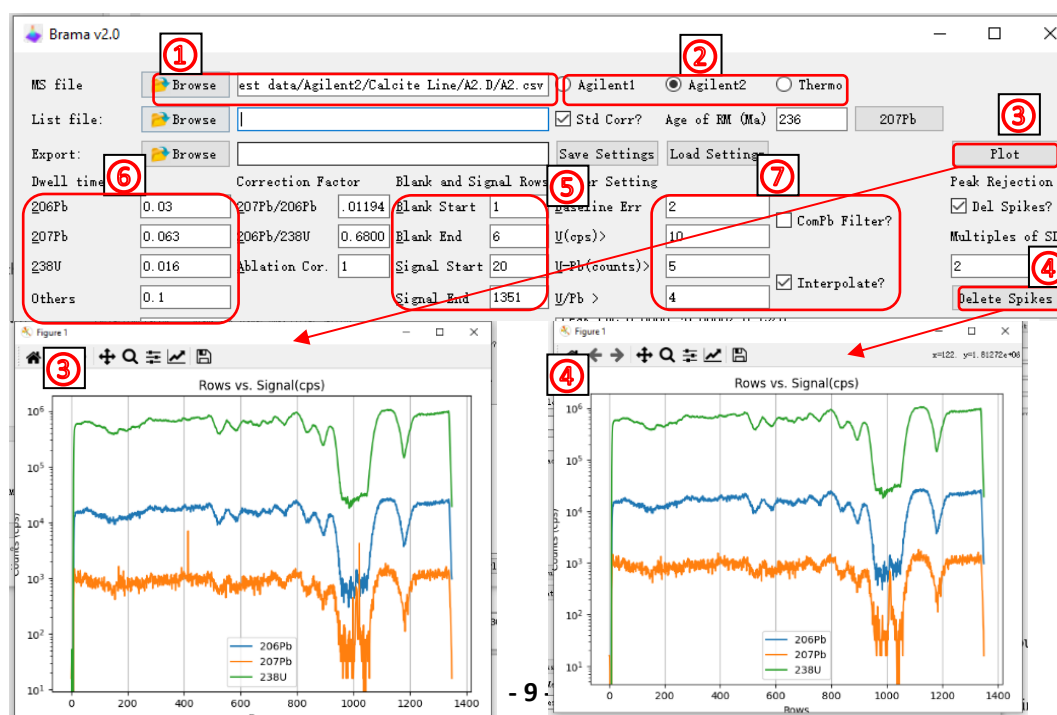

Fig. 1-9 Data import and signal display
As shown in Fig. 1-9, Click ①<import data>→②<select data format> import the Ms file.